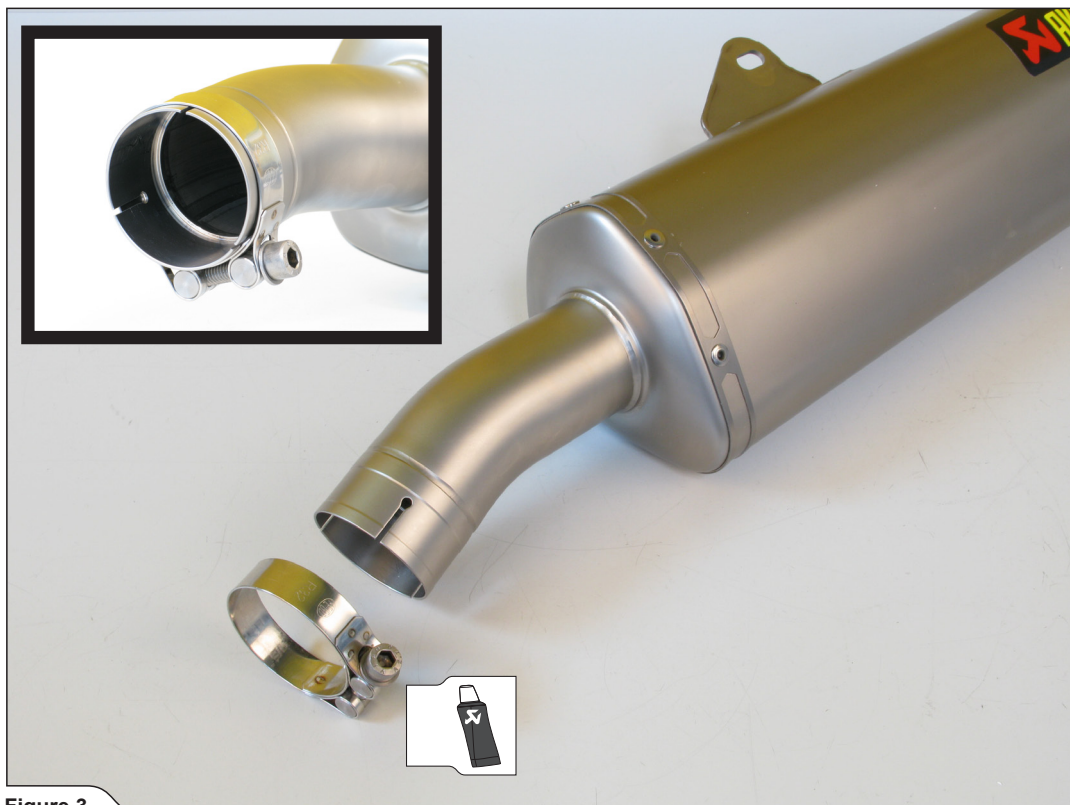

Figure 3
1. Orient and assemble the clamp from Akrapovič installation kit onto the muffler's inlet pipe, as shown (Figure 3).